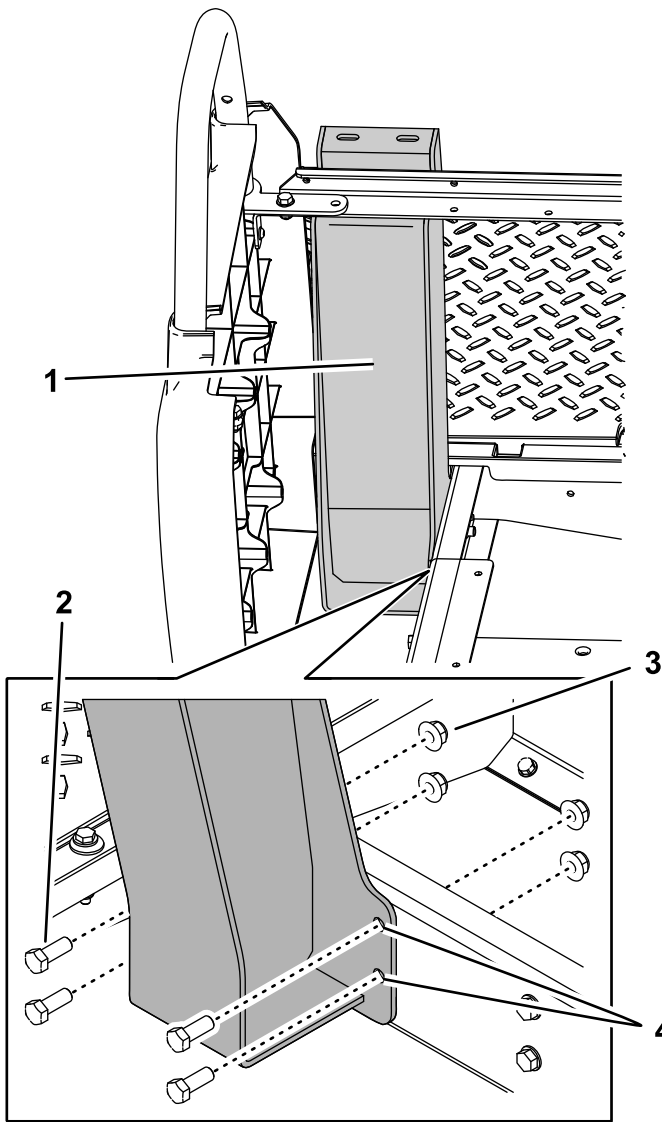

Figure 7
- Secure the right bracket to the lower frame rail using 2 bolts (3/8 x 1 inch) and 2 nuts (3/8 inch) in the lower, rear holes (Figure 7).